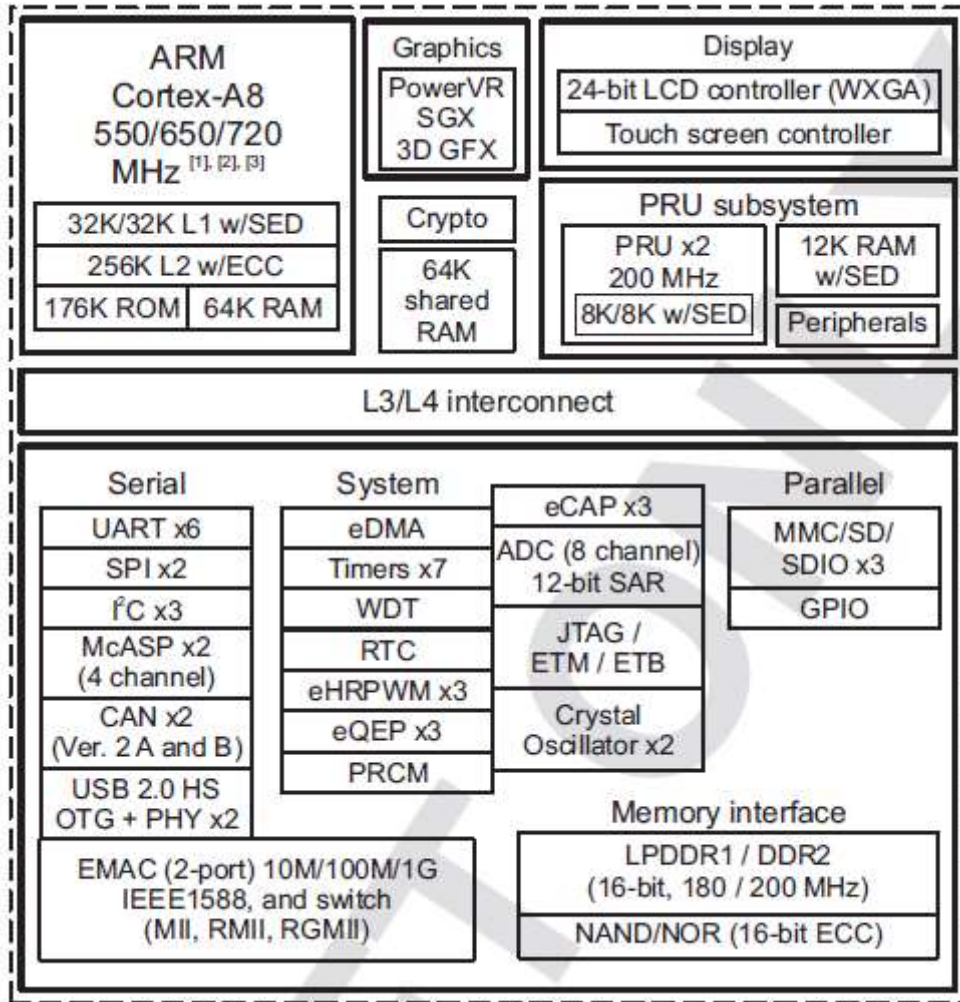

Figure 29. Sitara AM3358BZCZ Block Diagram
**Figure 29** is a high level block diagram of the processor. For more information on the processor, go to <http://www.ti.com/product/am3358>.